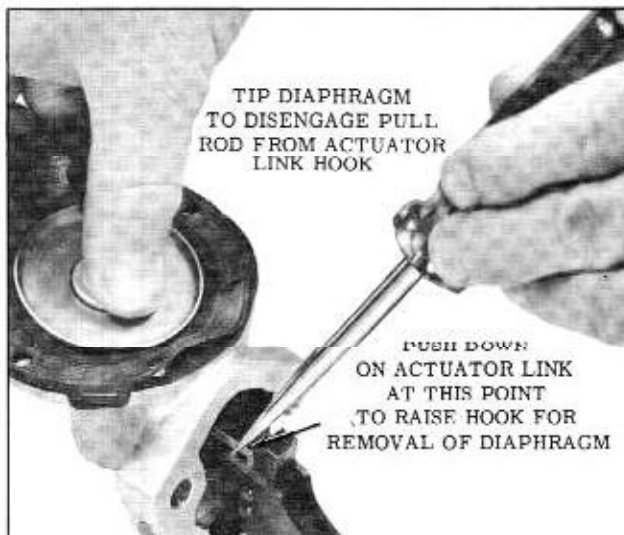
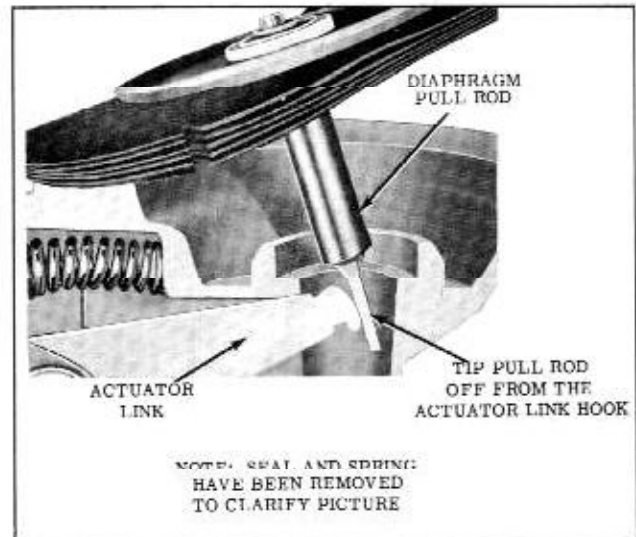

Fig. 8-56 Disengaging Diaphragm
Fig. 8-57 Diaphragm Removal
8. Push down on the end of the actuator link. (Fig. 8-56) This will hold the link up so that the diaphragm assembly may be tipped off of the link hook. (Fig. 8-57) To disconnect the diaphragm from the link, push down and away from the rocker arm side of pump.
3. Place spring over pull rod seal. Hold the fuel link up against the seal, as shown in Fig. 8-57, then install the diaphragm by inserting the pull rod through the spring and pull rod seal. With the flat of pull rod at a right angle to the fuel link, hook rod to link.